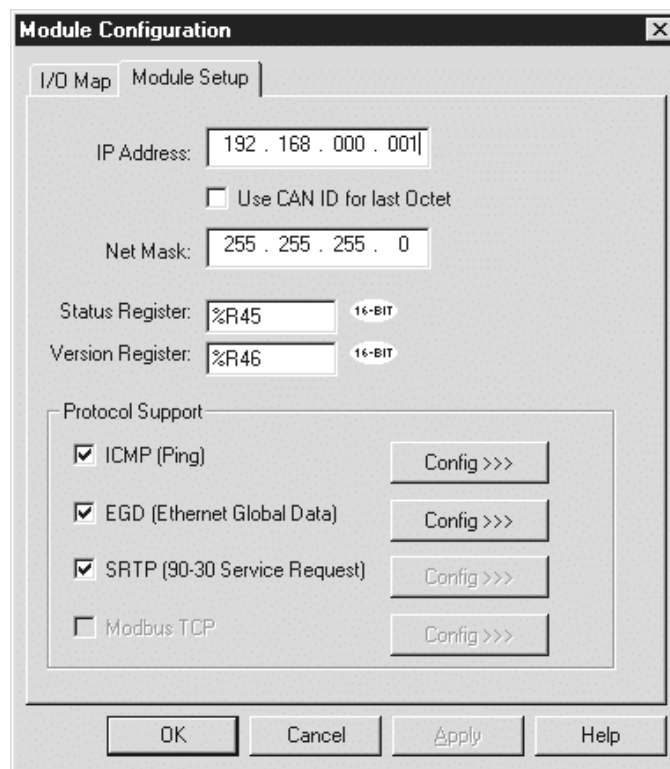

Figure 3.4 – Module Configuration Screen (Module Setup Tab Selected)
b. **Module Setup Tab** (Shown in Figure 3.4.)